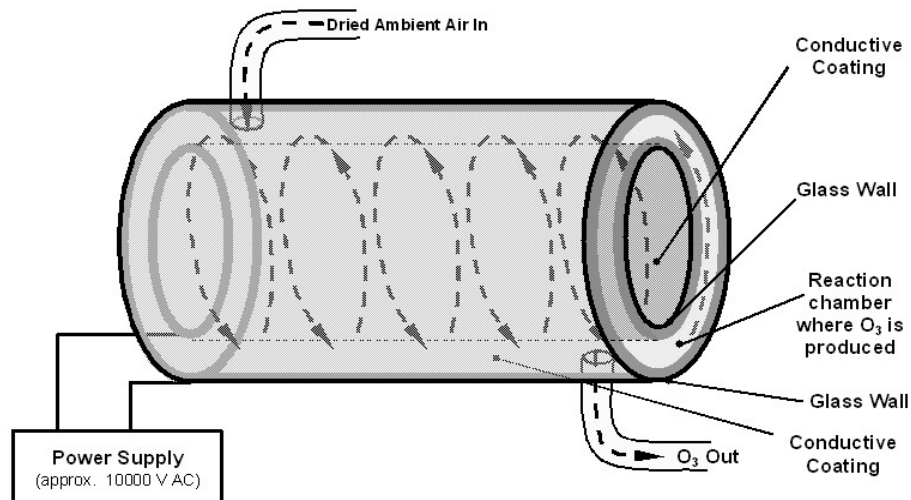

Figure 13-8: Ozone Generator Principle
The T200 uses a dual-dielectric, Corona Discharge (CD) tube for creating its O₃, which is capable of producing high concentrations of ozone efficiently and with low excess heat (see Figure 13-8). The primary component of the generator is a glass tube with hollow walls of which the outermost and innermost surfaces are coated with electrically conductive material.